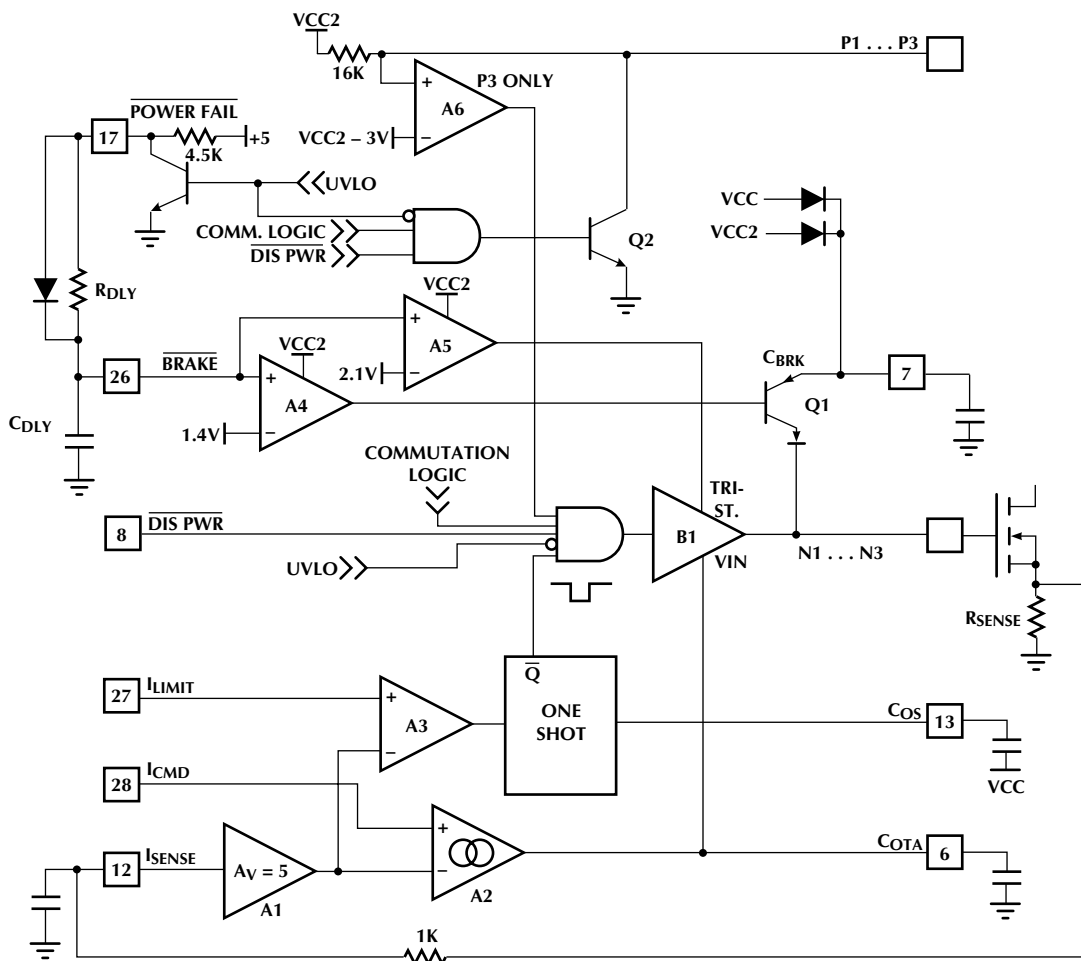
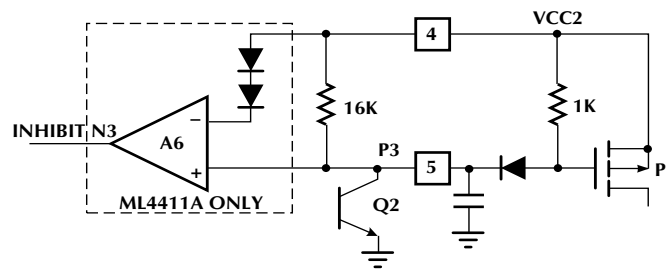

Figure 9. Current Control, Output Drive and Braking Circuits.
Figure 13. Alternate cross-conduction prevention for ML4411A
To facilitate speed control, the ML4411 includes two current control loops — linear and PWM (figure 9). The linear control loop senses the motor current on the  $I_{SENSE}$  terminal through  $R_{SENSE}$ . An internal current sense amplifier's (A2) output modulates the gates of the 3 N-channel MOSFET's when OTA OUT is tied to OTA IN, or can modulate a single MOSFET gate tied to OTA OUT. When operated in this mode, OTA IN is tied to 12V, and N1-N3 are saturated switches. This method produces the lowest current ripple at the expense of an extra MOSFET.
As shown in figure 9, the braking circuit pulls the N-Channel MOSFET gates high when BRAKE falls below a 1.4V threshold. After a power failure,  $C_{DLY}$  is discharged slowly through  $R_{DLY}$  providing a delay for retract to occur before the braking circuit is activated. The N-Channel buffer (B1) tri-states when the BRAKE pin reaches 2.1V to ensure that no charge from  $C_{BRK}$  is lost through the pull-down transistor in B1. To brake the motor with external signals, first disable power by pulling pin 8 low, then pull pin 26 below 1.4V using an open drain (or diode isolated) output.
Since the output section in a full bridge application consists of three half-H switches, cross-conduction can occur. Cross-conduction is the condition where an N-FET and P-FET in the same phase of the bridge conduct simultaneously. This could happen under two conditions (see figure 13):
- When transitioning from mode 0 to mode A (see table 1) P3 goes from on to off at the same time N3 goes from off to on. If the P3 turns off slowly and N3 turns on quickly, cross-conduction may occur. This condition has been prevented inside the IC on the ML4411A through the addition of comparator A6 on the P3 output (Figure 9). This comparator may cause an oscillation when the N3 switches on due to the capacitive coupling effect described below pulling the P3 pin below VCC2-1.4V. To avoid this, use the circuit in Figure 13.